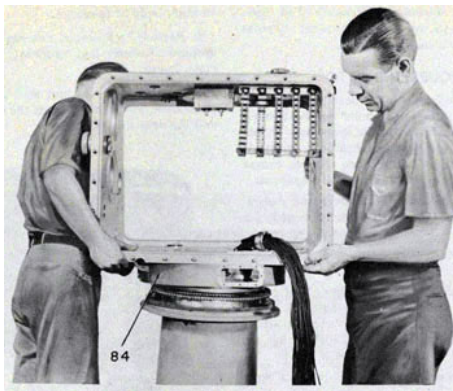

Figure 124-Lifting Case from the Stand.
84. With the assistance of one other man, lift the case from the stand. See figure 124.